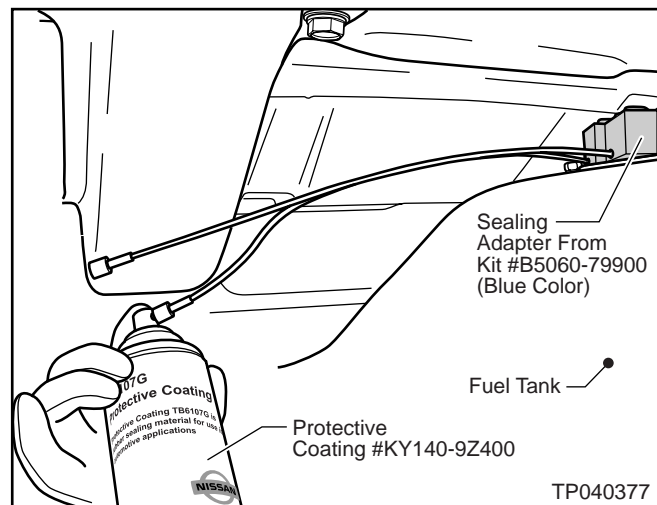

Figure 11
3. Spray the Protective Coating #KY140-9Z400 through each Adapter Tube for about two seconds (see Figure 11).